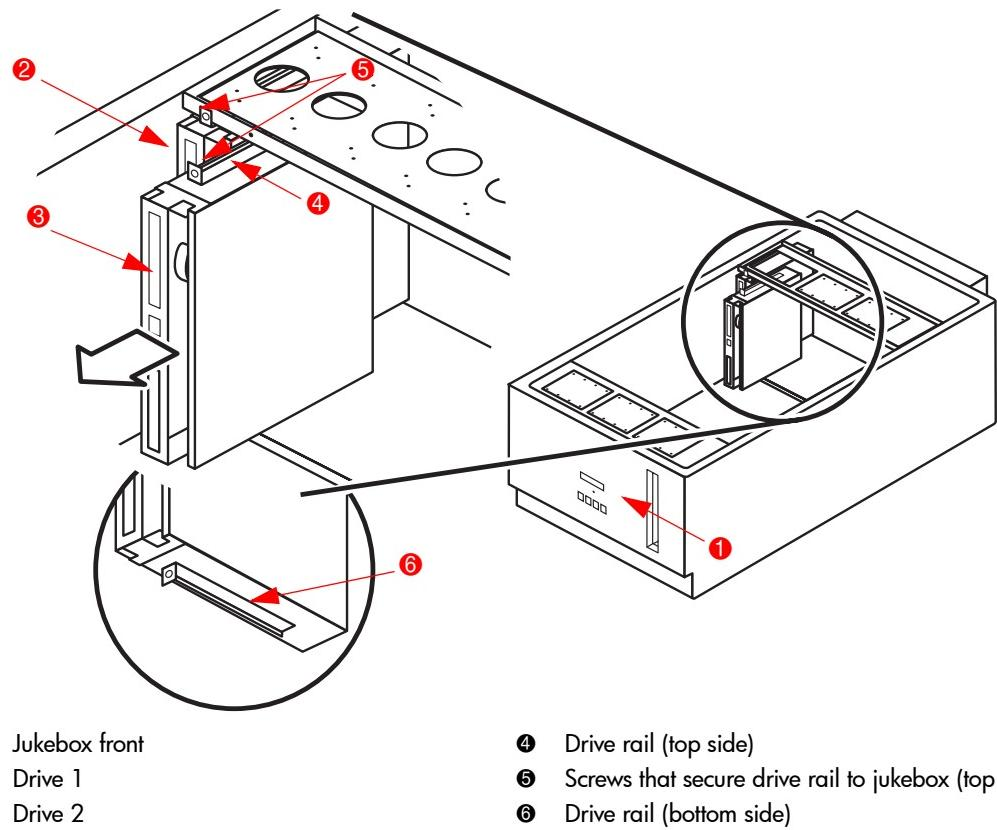

Figure 3: Remove screws that secure drive rails to jukebox (the right side of the drive is shown)
3. Identify the failed drive and remove the two T-10 Torx screws that secure the drive's rails to the jukebox frame (see Figure 3) on either side of the drive.
- Secure the drive rails to the jukebox frame using two T-10 Torx screws (see Figure 3).
- Use **NEXT** or **PREV** to go to menu item 36 : AUTO SLOT SET, then press **ENTER**.